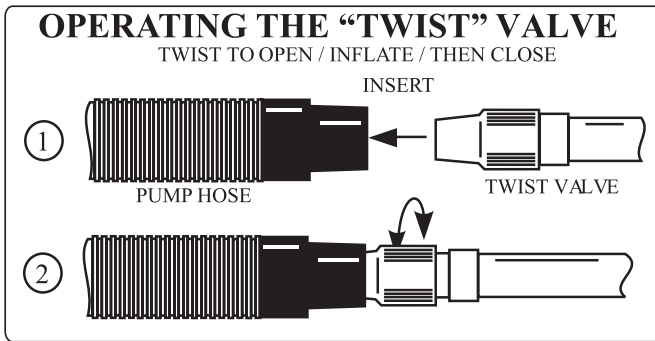

Figure 2. Inflate/ Deflate Twist Valve
6. Inflate the small wedge-shaped inflatable foot brace and place it inside of the kayak, at the front, to provide your desired foot bracing. (See Figure 2 on previous page.)